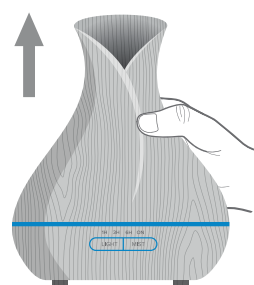

Fig. 1
- 1 Position the Oil Diffuser upright, pull vertically upwards to remove cover from water tank. (Fig. 1)